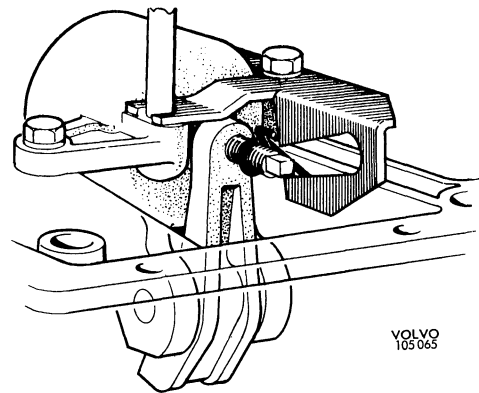

Fig. 4-111. Self-adjusting
27. Adjust the position of the spring on the adjusting screw. It should be 1—2 threads from the lever. Remove the torque wrench and spacer block and then fit the cam. Insert the longer end of the spring in the cam, see Fig. 4-111.